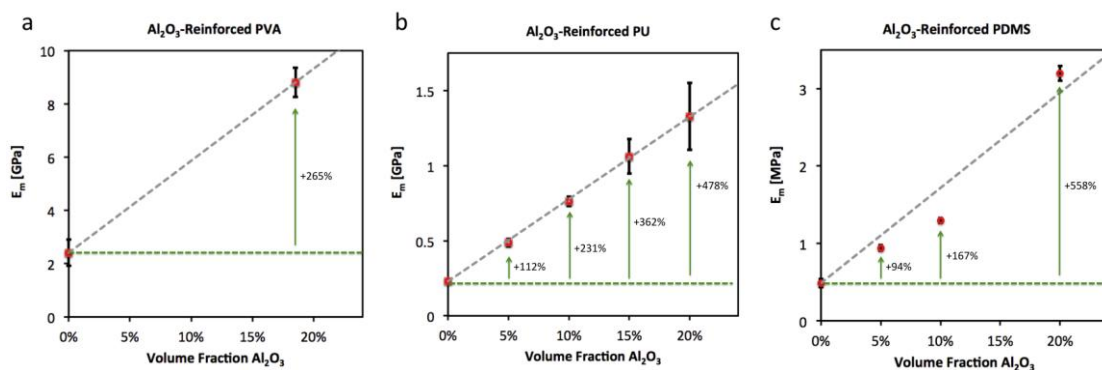

Figure S2 – Al_2O_3 reinforced (a) PVA, (b) PU, and (c) PDMS matrices at varying levels of alumina content.
Figure S2 shows the effect of the concentration of alumina platelets on the elastic modulus of poly(vinyl alcohol) (PVA), polyurethane (PU) and polydimethylsiloxane (PDMS). The plots indicate a remarkable reinforcement of the polymer matrices upon addition of the alumina platelets. In particular, the hydrophobized platelets interact strongly with the PDMS matrix as was further observed with a good connection apparent in scanning electron micrographs of the freeze-fractured cross-section of such a sample (Figure S3).